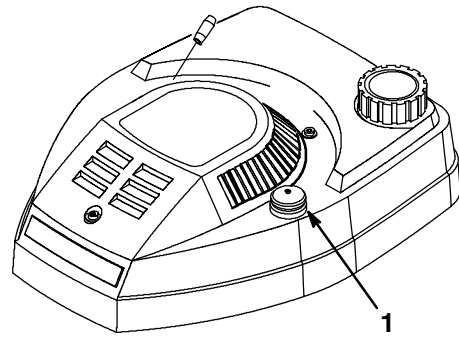

Figure 12
2. Push the primer three times (Fig. 12), waiting about two seconds between each push.